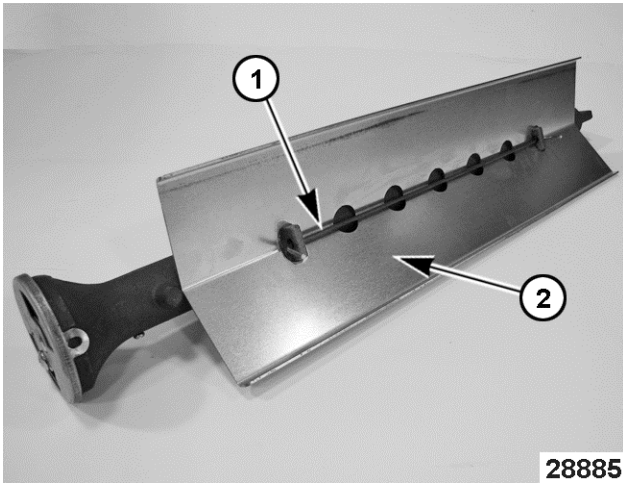

Fig. 92
5. Remove burner rod (1, Fig. 92) securing deflector (2, Fig. 92) to burner.